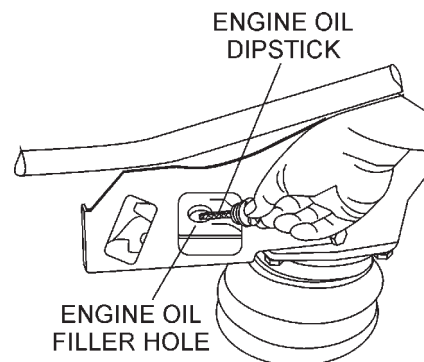
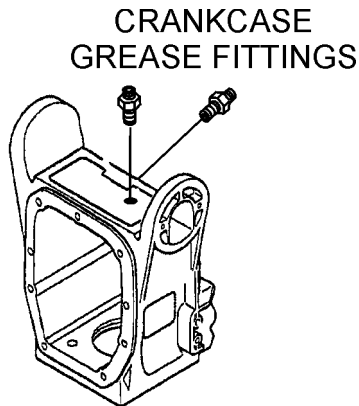

Figure 5. Engine Oil Dipstick
Figure 19. Grease Fittings (Crankcase)
2. There are 2 grease fittings (Figure 19) that require lubrication of the crankcase. Lubricate these fittings as outlined in the maintenance section of this manual. to replenish it often (Figure 5).
2. Remove the filler cap/dipstick from the engine oil filler hole (Figure 5) and wipe it clean.
- The rammer crankcase bearings (Figure 19) should be lubricated with five shots of grease with a hand grease gun after each eight (8) hours of use.